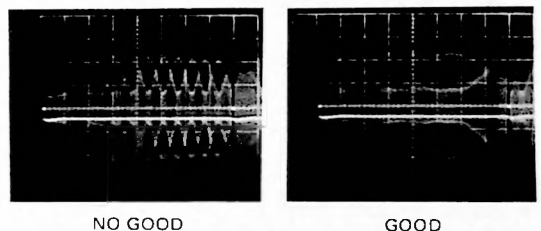

Fig. 4-4-14
- Adjust V.SIZE VR108 for minimum beat during the vertical period. (Fig. 4-4-14)